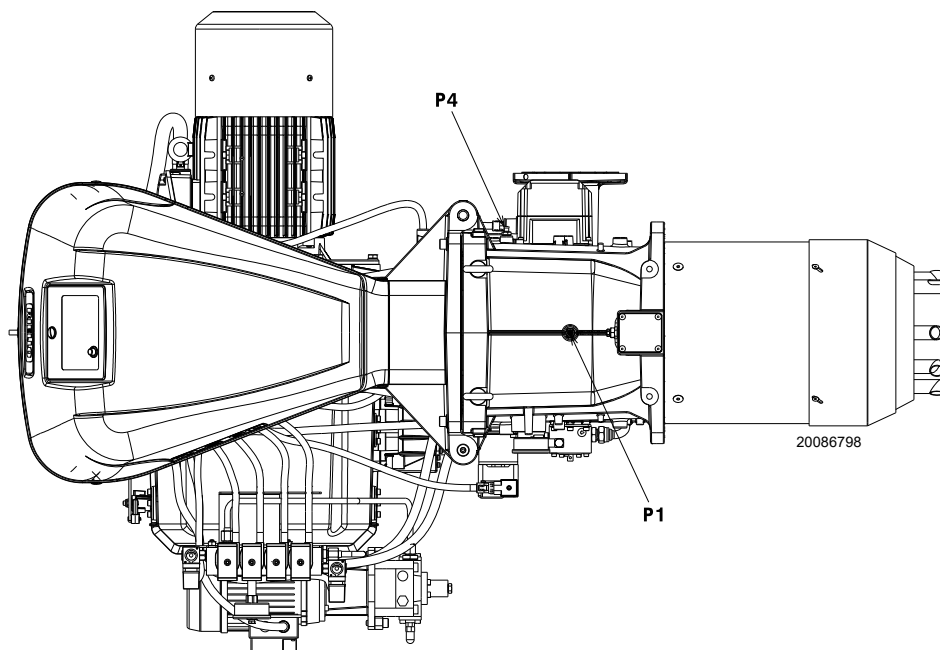

Fig. 30
Gas pressure measured at the test point P1)(Fig. 30), with:
- subtract the combustion chamber pressure from the gas pressure measured at test point P1) (Fig. 30 on page 31).
Gas pressure at test point P1) (Fig. 30) = 29,4 mbar
To calculate the required gas pressure at test point P1) (Fig. 30 on page 31), set the MAX output required from the burner operation:
- Read, on the right (column 1), the pressure at the test point P1) (Fig. 30 on page 31).
Pressure required at test point P1) (Fig. 30 on page 31).